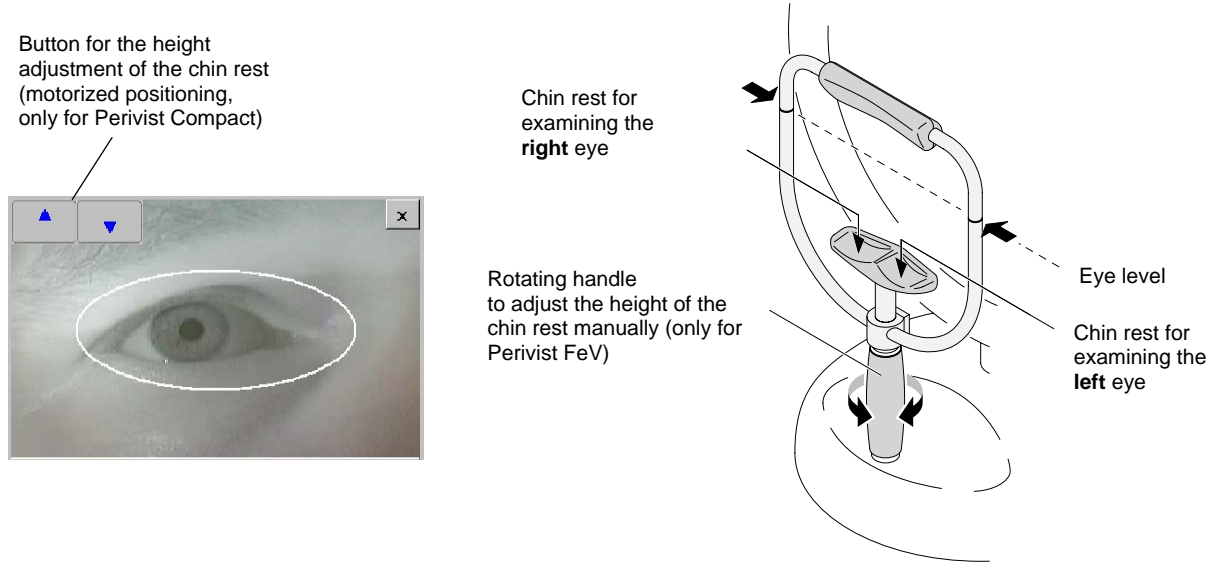

Fig. 15
**Perivist FeV:** Use the rotating handle of the chin rest to set the correct height of the patients' eye in front of the device. Bring the eyes to the correct height (refer to Fig. 15, page 24). At the same time, the patient should concentrate on the fixation point.
**Perivist Compact:** Use the arrow keys to adjust the height of the chin rest (refer to Fig. 15, page 24).